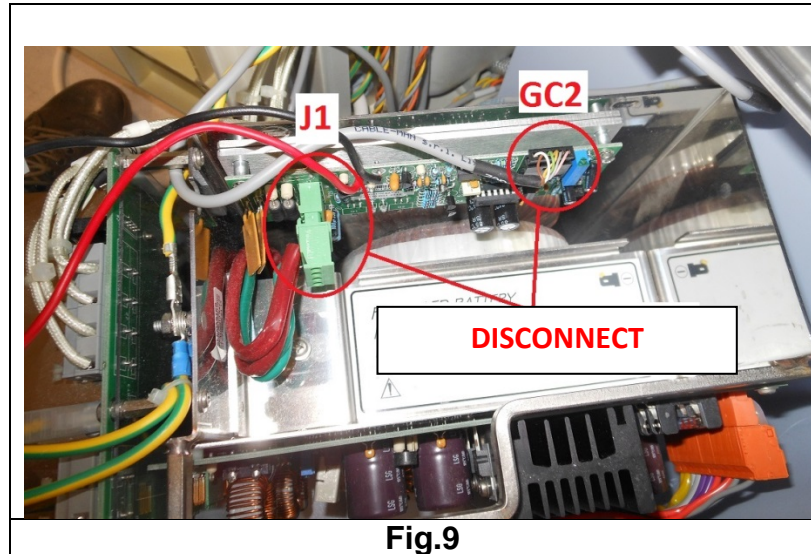

Fig.9
9. If not already performed, disconnect J1 and GC2 from charge board (**Fig. 9**).